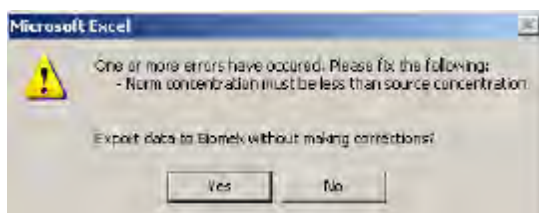
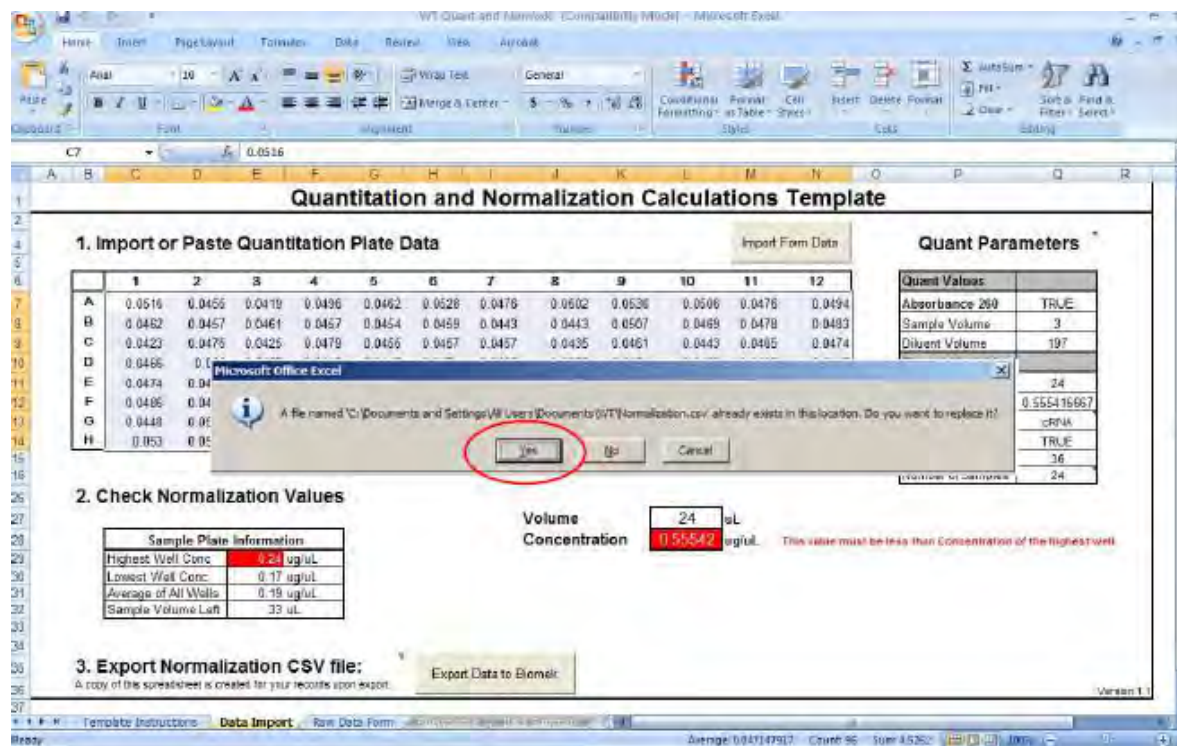

Figure 53 Warning message.
Figure 54 Quantitation and normalization calculations template.
19. In the **Data Import** tab, click **Export Data to Biomek** in the Quantitation and Normalization Calculations Template. If any of the samples do not meet the minimum concentration a warning message appears (Figure 53). Click **Yes** in the prompt that appears (Figure 54).